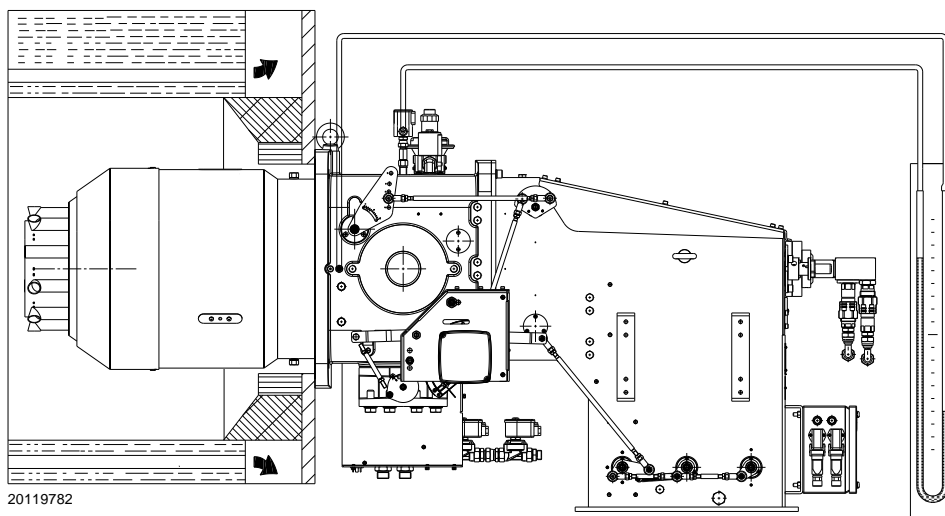

Fig. 30
- Fit a U-type pressure gauge or a differential pressure gauge (Fig. 30), with socket (+) on the gas pressure of the pipe coupling and (-) in the combustion chamber. The manometer
The arrival of the gas at the pipe coupling is shown on the U-shaped pressure gauge (Fig. 30) or else with the help of a digital pressure gauge on the pressure test point under the pipe coupling.